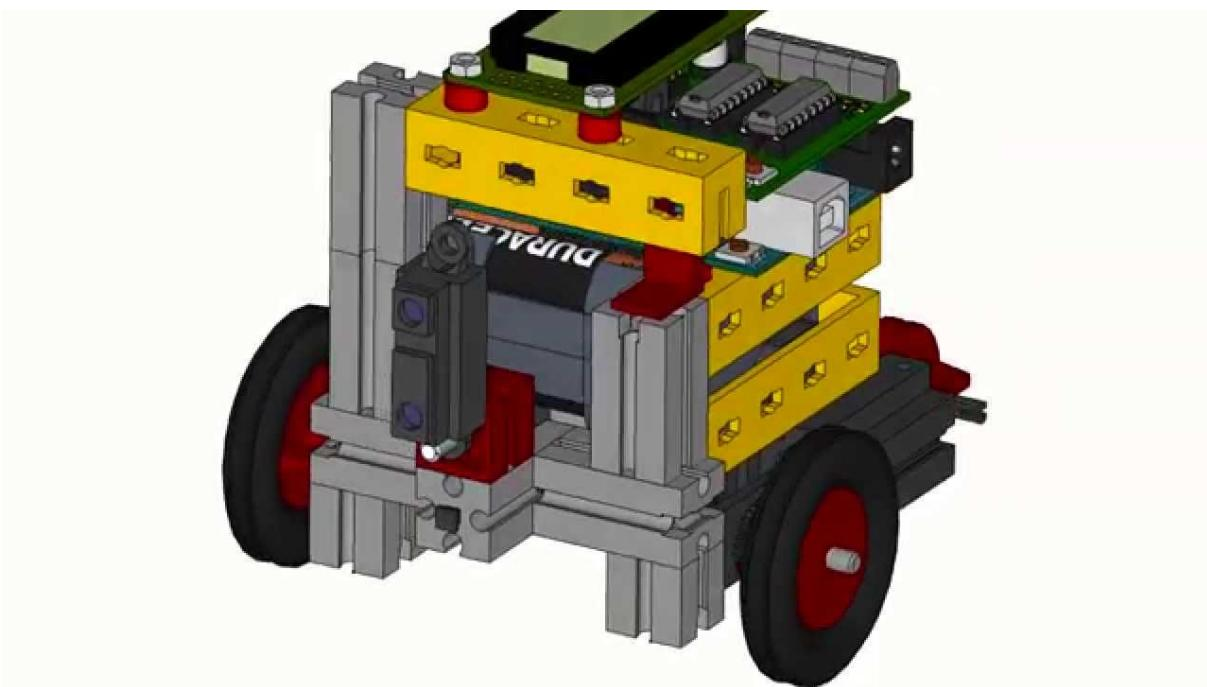

Figure 31.1: Mounting position of analog distance sensor.
2. Equip the robot with distance sensor according to video and scheme (see fig. 31.1).